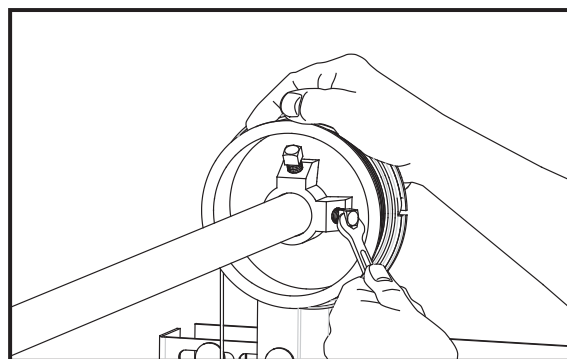

Fig: 3.6.3
- Once the cable is taut, slide the cable drum against the side bearing bracket and tighten the screws to the torsion bar. Fig 3.6.3.